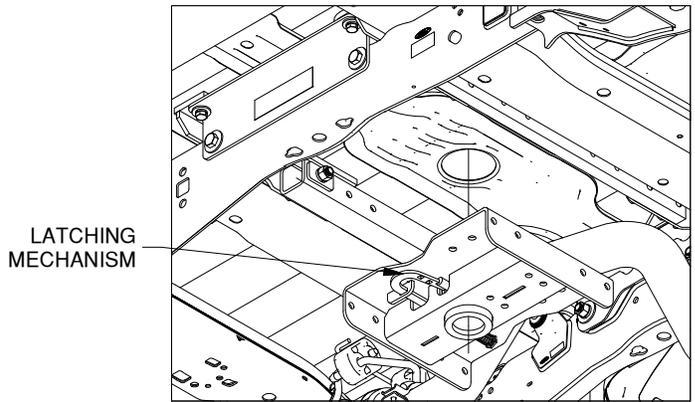

Figure D1: Bottom of truck frame looking up at hitch installation area.
- 1. Position center section.** Push the front cross member forward and the rear cross member rearward so that there is room between them for the center section. With the square holes of the latch mechanism on the driver side, lift the center into place as shown in Figure D1.